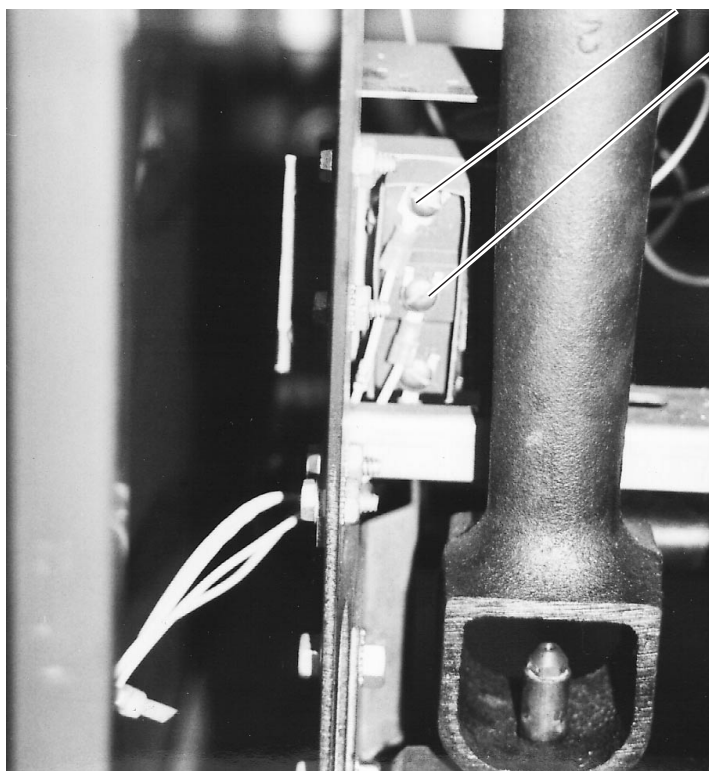

Fig. 28
3. From the high limit disengage the closed and normally open thermopile wire leads. (Fig. 28)